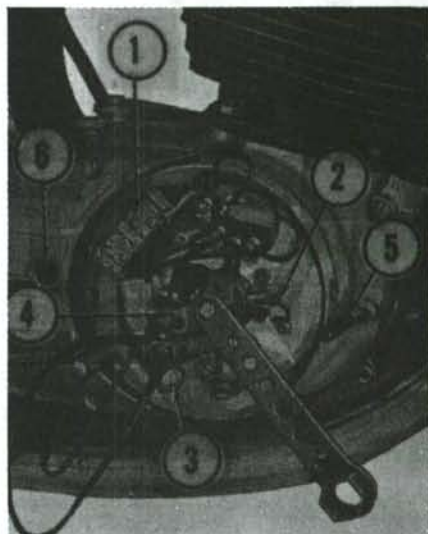

Fig. A3-3—View of right side with cover removed. Refer to text for adjusting the ignition timing.
All models are equipped with battery ignition system. The generator armature is mounted on the right end of the crankshaft and voltage is controlled by regulator mounted on the stator plate. Ignition breaker point gap should be 0.016 inch. Ignition timing should occur (breaker points just open) when the rear piston is 0.216 inch BTDC on 175cc models; 0.266 inch BTDC on 250cc models. The piston can be correctly positioned by inserting 6MM (15/64-inch) diameter rod through hole in crankcase and into hole in crankshaft as shown at (5—Fig. A3-3). If timing is incorrect, loosen the armature retaining screw and move the
CLUTCH. The clutch should have less than ½-inch free play as measured at end of hand lever. If free play is excessive, adjust the cable. If adjustment can not be accomplished at cable adjusters on 250cc models, additional adjustment is available at screw (6—Fig. A3-3). Lock plate on screw (6) prevents fine adjustment and screw must be turned at least 1/6-turn. Final adjustment should be accomplished at cable.